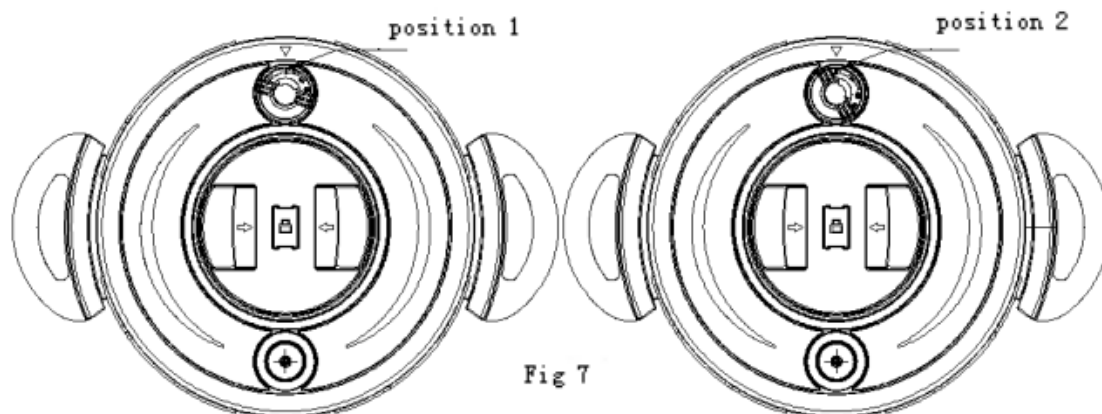

Fig 7
b. The working pressure of "I" is $60 \pm 10\% \text{ kPa}$ and "II" $100 \pm 10\% \text{ kPa}$. Fig 7). The Regular Valve will exhaust when the pressure up to the choose working pressure. Then should low or shut up the heater.